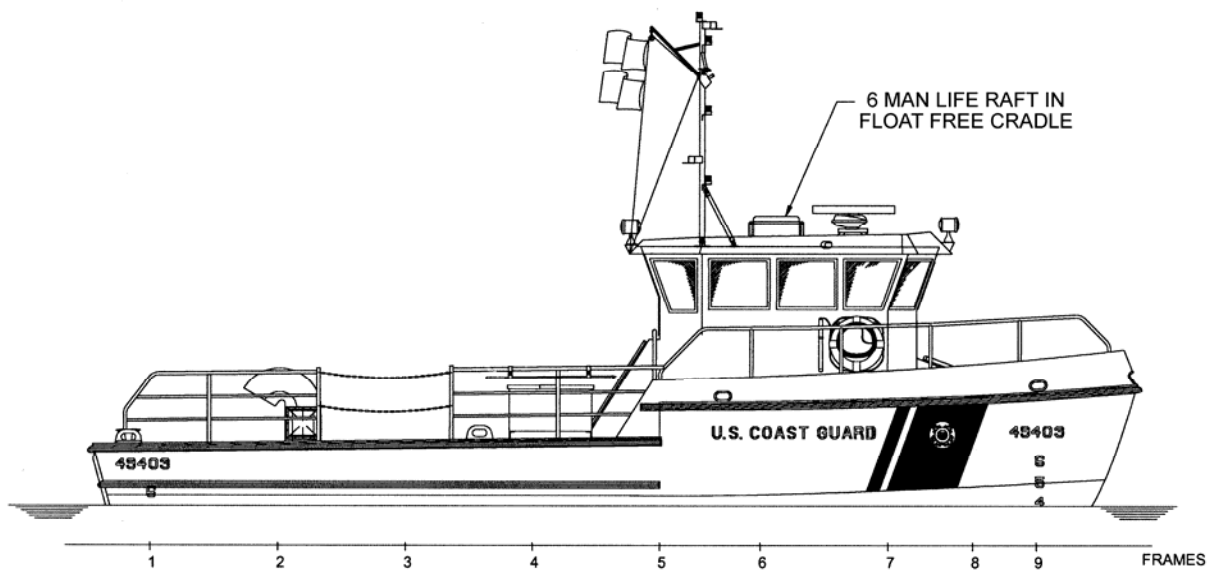

Figure 2-20
E.11. Location One 6-person life raft is stored in a weather-tight, fire-retardant container atop the pilothouse, forward of the mast, in a float-free life raft cradle. (See **figure 2-20.**)